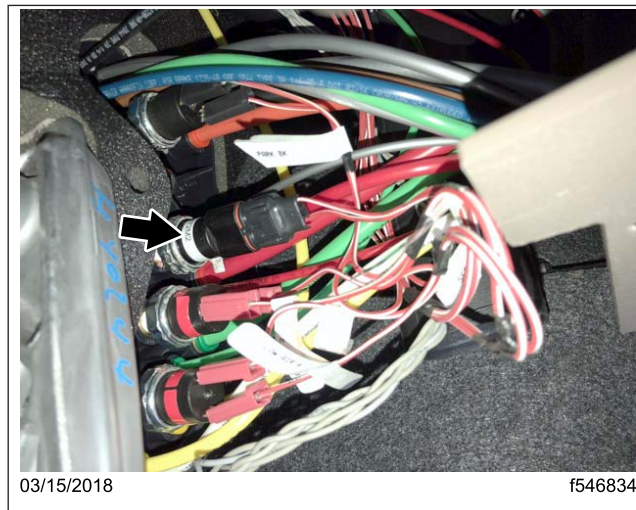
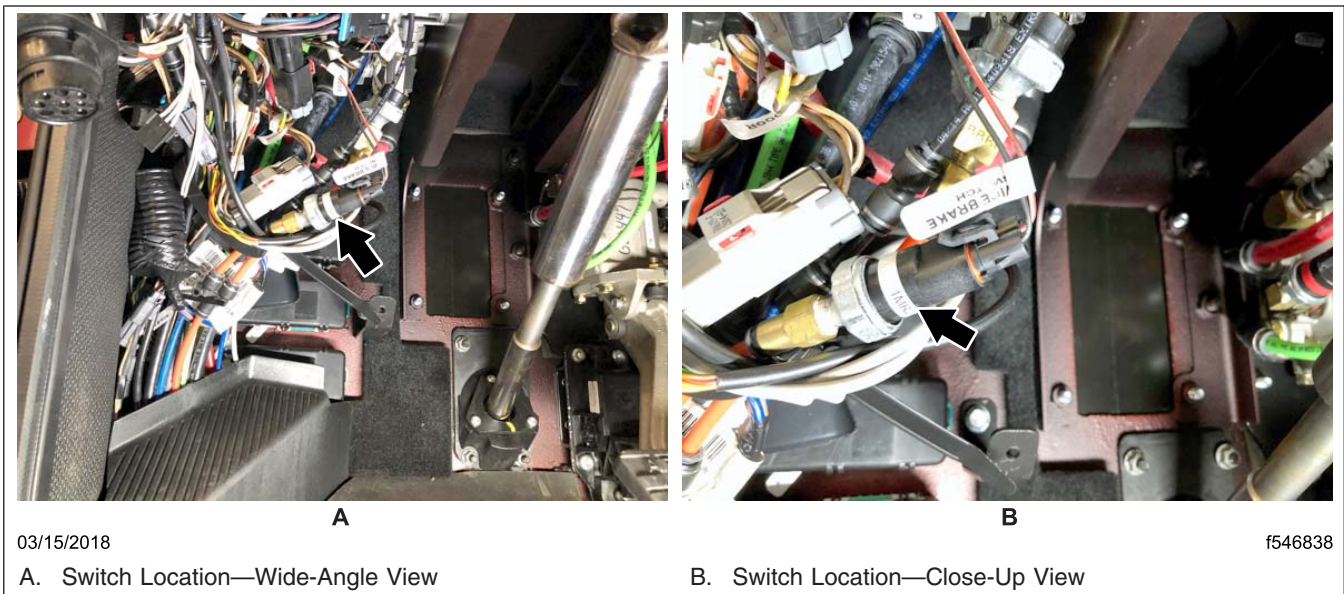

Fig. 4, Disconnecting the Switch Connector, Cascadia Vehicles
Fig. 5, Disconnecting the Switch Connector, Western Star Vehicles
5. Disconnect the switch connector from the air pressure switch. See Fig. 4 for Cascadia vehicles and Fig. 5 for Western Star vehicles.